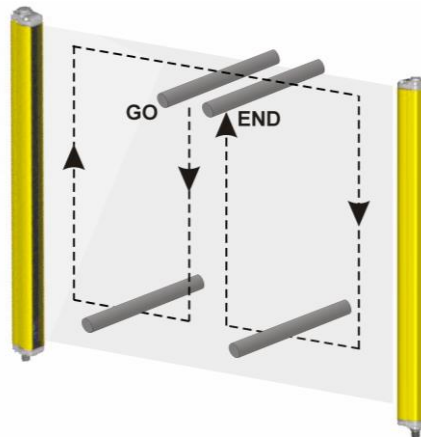

Figure 16 – Scheme for checking the function
- The AOPD remains in OSSD OFF state () during beam interruption along the entire detection zone, using the suitable “Test Piece” and following the Figure 16 scheme. The suitable “Test Piece” has one dimension identical with the resolution of the AOPD, a cylinder with a 14 mm diameter for a light curtain with a 14 mm resolution for example.